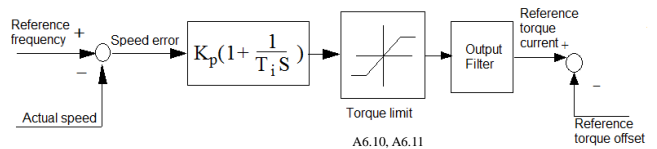

Fig.6-13 Speed regulator
1.The structure of speed regulator (ASR) is shown in Fig.6-13.In the figure, K_p is proportional gain P. T_i is integral time I.